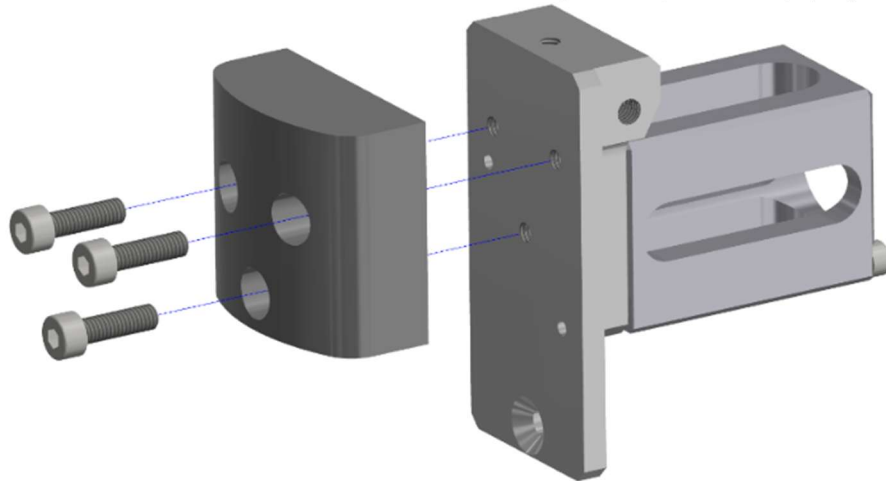

Figure 8-20. Separate the Pubic Bone (474-4544) from the Pelvis On Board DAS Mounting Plate (474-4005)
8.2.16 Remove three M4 X 0.7 X 14 LG. SHCS to separate the Pubic Bone (474-4544) from the Pelvis On Board DAS Mounting Plate (474-4005) (Figure 8-20).